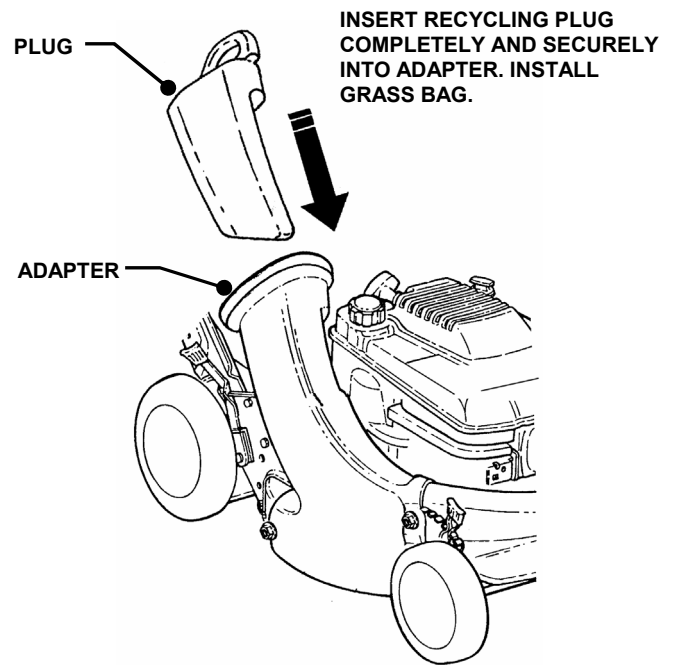

FIGURE 2.11
STEP 1: Once adapter has been installed, recycling may be desired. Insert recycling plug completely and securely into adapter. See Figure 2.11. Install grass bag as a safeguard.